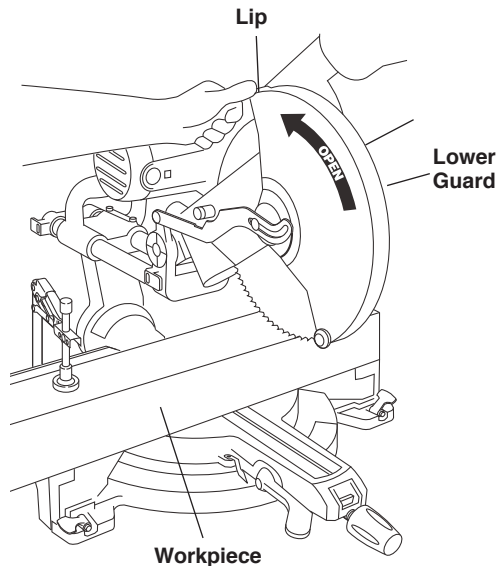

Figure 20. Raising Lower Guard
- Workpiece must be securely clamped. This frees a hand to raise the guard by the lip just enough to clear the workpiece (Figure 20).